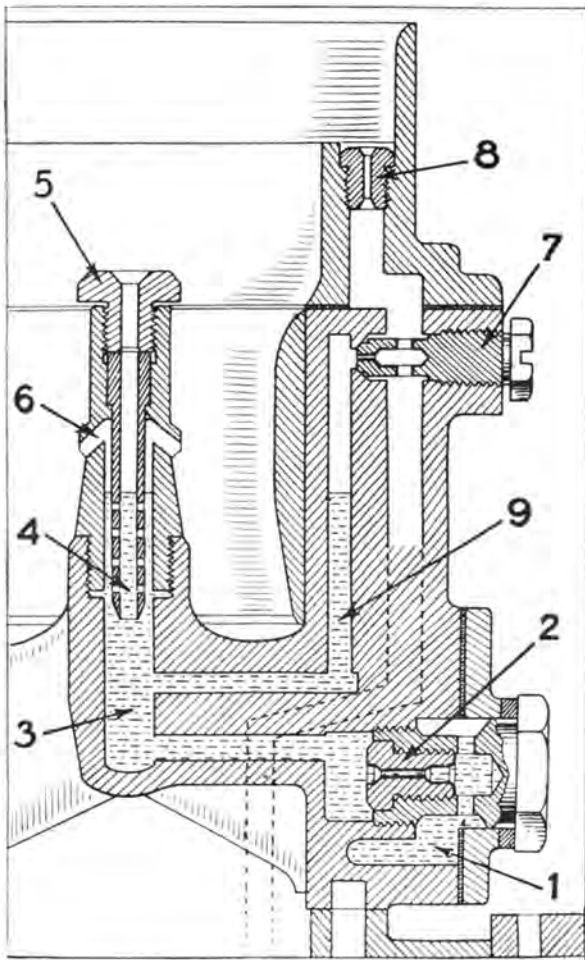

Fig. 37.—FUEL SUPPLY TO MAIN AND IDLING JETS.
Concerning the main fuel supply, petrol passes from the float chamber inter-connecting cavity (1) (Fig. 37), through the main jet (2) into the emulsion tube well (3). Thence it passes up the drilled emulsion tube (4), where it meets air entering via the correction jet (5). The resulting mixture passes through the six holes in the emulsion tube into the space between the tube and the wall of the petrol well. Opening of the throttle causes a high velocity air current through the choke tube, which draws the mixture upwards and into the air stream through the six radial holes (6), two of which are shown in Fig. 37.
Located immediately above the main jet holder (Fig. 35), the idling or pilot jet is easily removable without any dismantling of the carburettor. This jet (7) (Fig. 37) is supplied from the emulsion tube well by a small drilled channel (9). Above the pilot jet is the pilot air bleed (8), which provides a permanent source of air supply for the emulsion which, so formed, passes vertically downwards through the